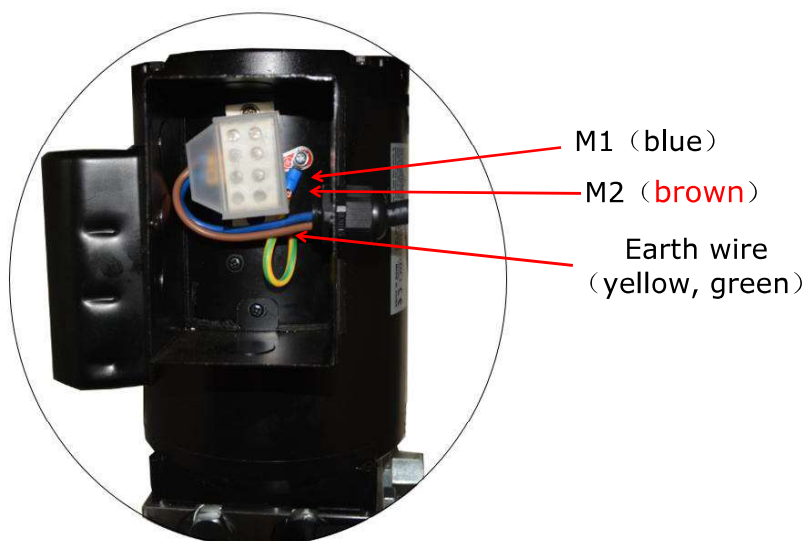

Fig.19
2.2 220V power unit motor wires connection diagram (see Fig.19)